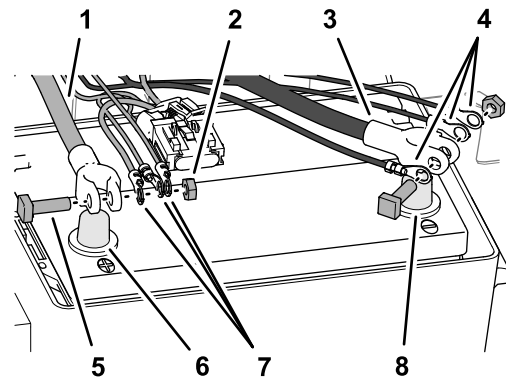

Figure 186
1. Route the positive terminal (red wire), negative terminal (black wire), and fuses block (50 A) of the rear wire harness up between the battery box and the chassis of the machine (Figure 186).
4. Remove the T-bolts and hex nuts from the terminals of the positive and negative battery cables (Figure 186).
5. Assemble a T-bolt through the positive terminal (red wire) of the rear wire harness, the positive terminal of the navigation-electrical harness, modem power harness, and terminal of the positive battery cable (Figure 186).
6. Loosely secure the terminals and the T-bolt with a hex nut (Figure 186).
7. Assemble a T-bolt through the negative terminal (black wire) of the rear wire harness, the negative terminal of the navigation-electrical harness, modem power harness, and terminal of the negative battery cable (Figure 186).
8. Loosely secure the terminals and the T-bolt with a hex nut (Figure 186).
1. Connect the positive (red) cable to the positive (+) battery post, and tighten the nut; refer to Figure 186 in [Assembling the Rear GeoLink Harness, Navigation-Data and Electrical Harness, and Modem Power Harness to the Battery Cables](#) (page 81).
2. Connect the negative (black) cable to the negative (-) battery post, and tighten the nut; refer to Figure 186 in [Assembling the Rear GeoLink Harness, Navigation-Data and Electrical Harness, and Modem Power Harness to the Battery Cables](#) (page 81).